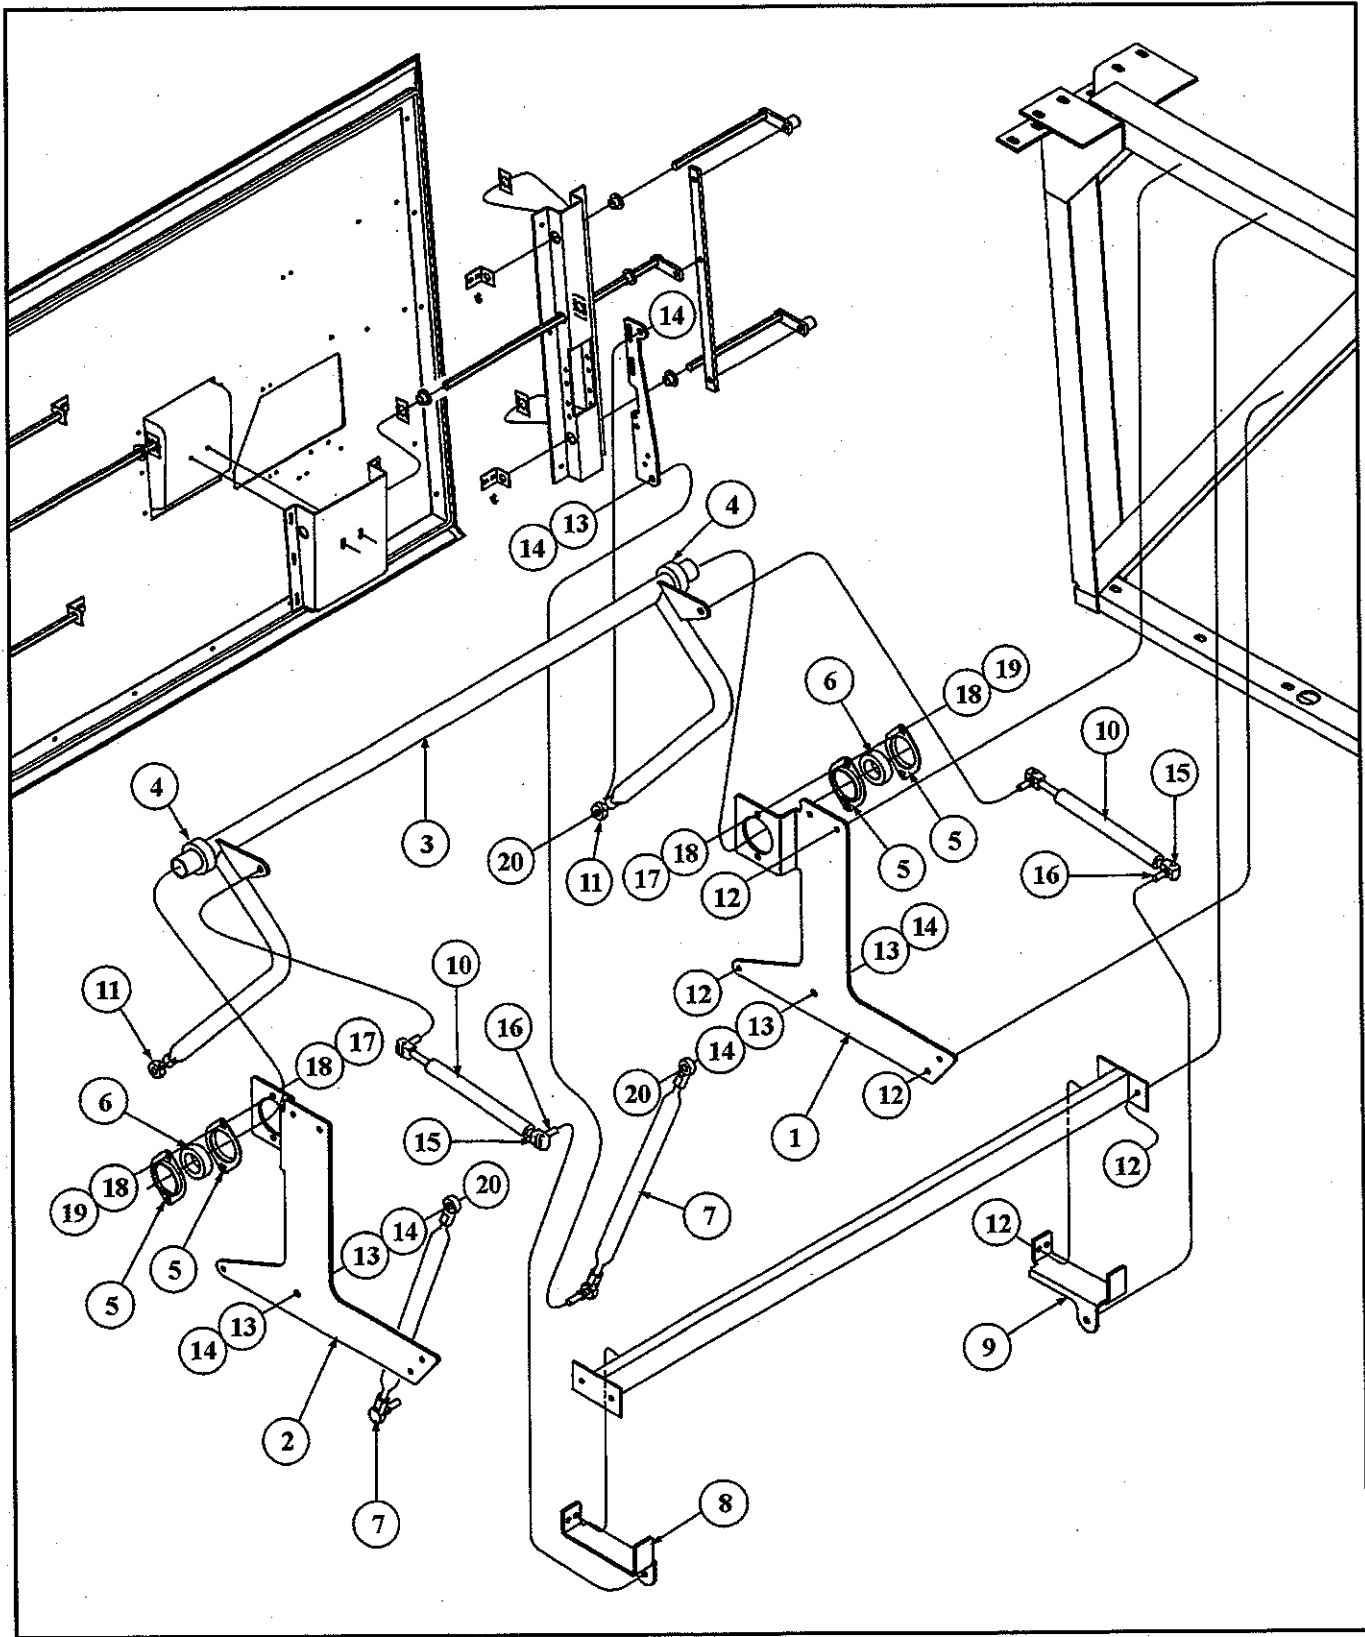

Figure 1—Maintenance Locations and Part Removal
*Front to rear adjustment can be accomplished by moving the collar shafts forward or rearward. (See Figure 1—Pantograph Luggage Door Assembly.)*